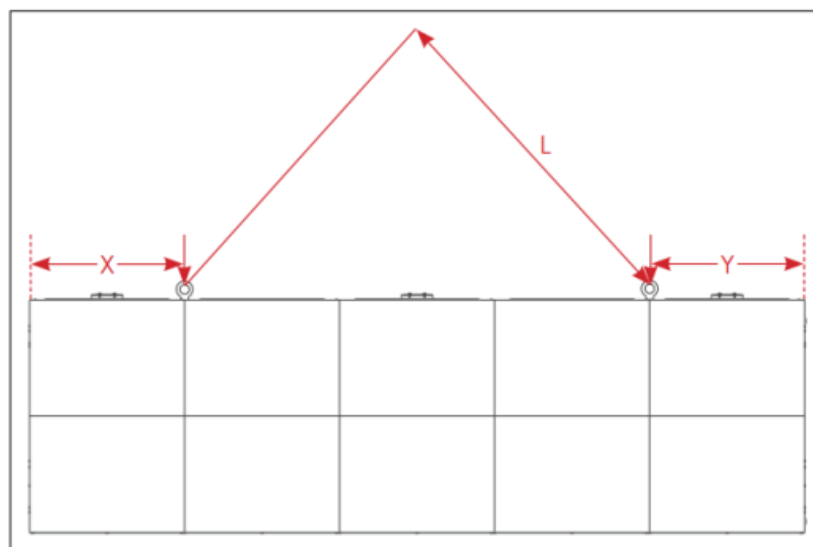
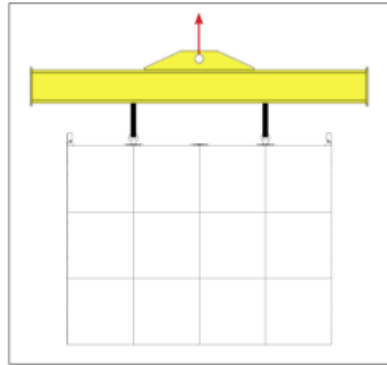

Figure 1: Lift Eye Locations (Beverage Shroud Removed)
Figure 2: Lift with Spreader Beam
Refer to the provided Figure 1 for lift eye locations when the beverage shroud is removed. For a spreader beam lifting method, refer to Figure 2.
- Use a spreader beam with sufficient weight capacity. Refer to Figure 2 and Section Sizes & Weight Estimates (p.1).